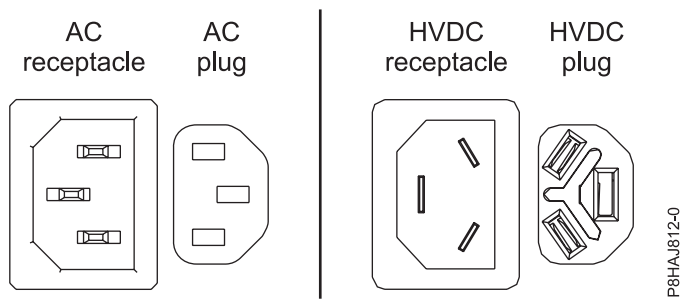
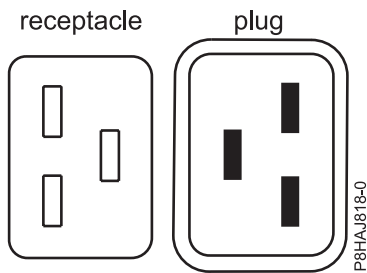
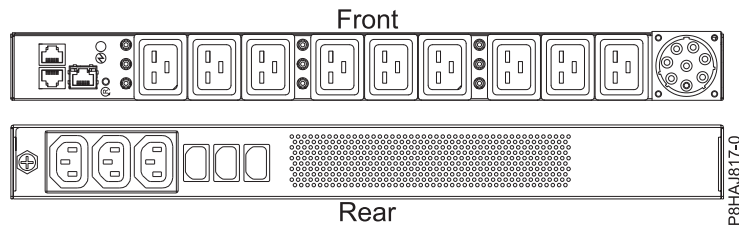

Figure 35. AC and HVDC connectors
Figure 36. Connectors for the 8408-44E system
Figure 37. PDU for the 8408-44E system
Figure 35 shows the supported alternate current (AC) and high voltage direct current (HVDC) connectors. Figure 36 and Figure 37 show the supported connectors and power distribution unit (PDU) for 8408-44E.